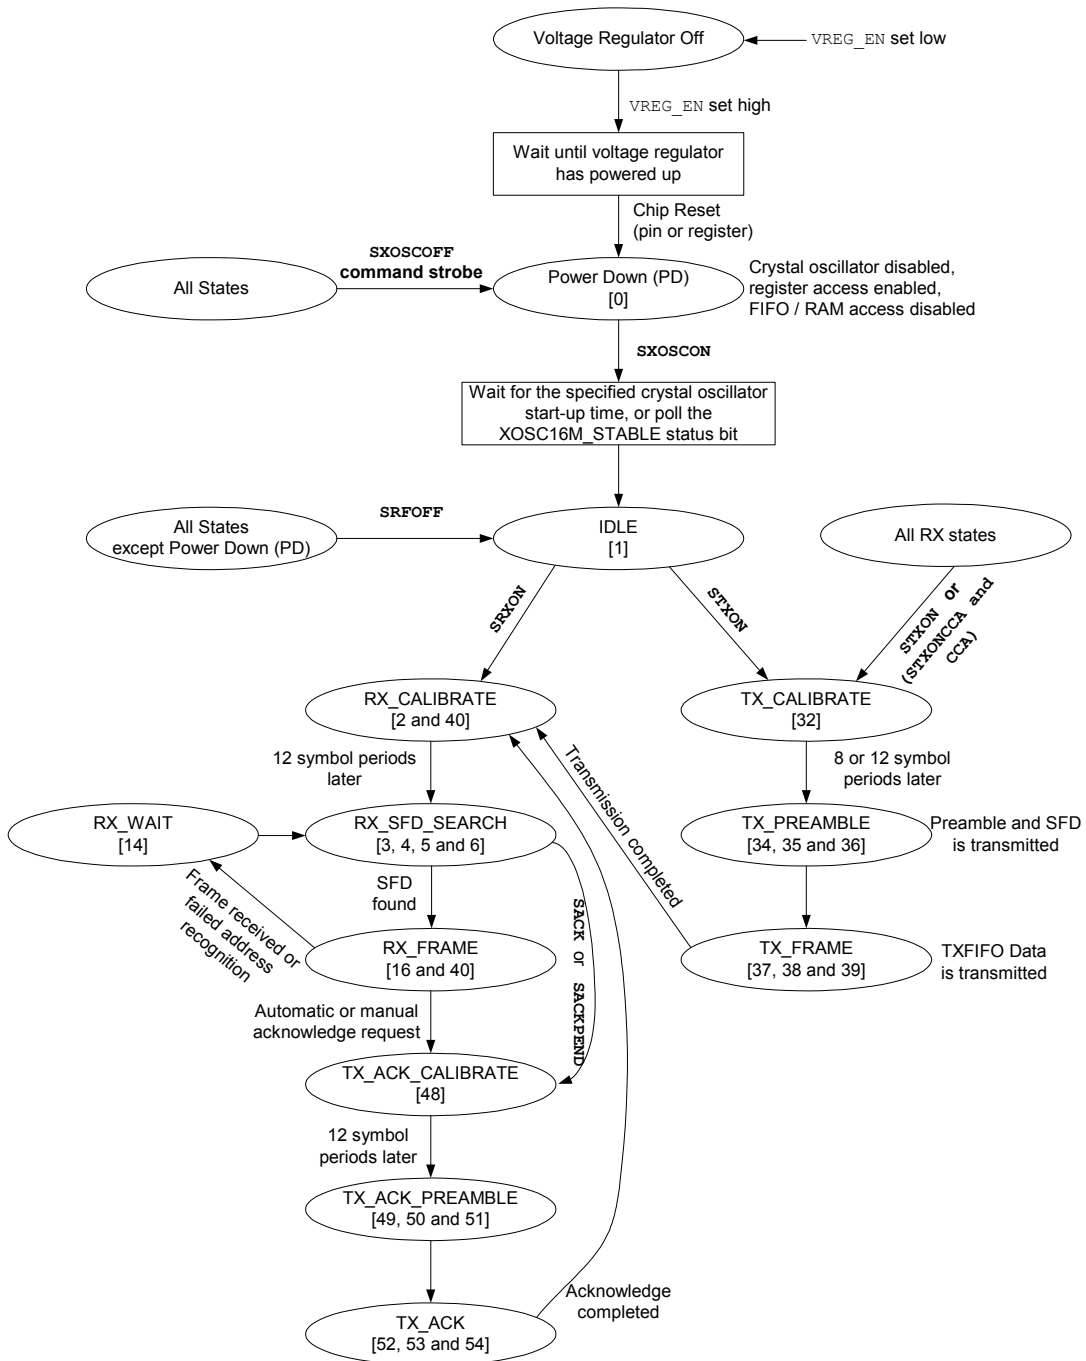

Figure 23. Radio control states
The radio control state machine states are shown in Figure 23. The numbers in brackets refer to the state number readable in the `FSMSTATE` status register. Reading the `FSMSTATE` status register is primarily for test / debug purposes.
For test purposes, the frequency synthesizer (FS) can also be manually calibrated and started by using the `STXCAL` command strobe register. This will not start a transmission before a `STXON` command strobe is issued. This is not shown in Figure 23.